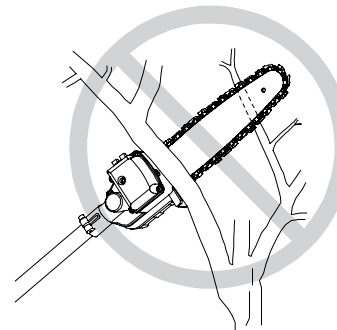

Fig.3-4
- If another branch is immediately behind the branch being cut, use extreme caution. The second branch can cause the guide bar to break. (Fig.3-4)